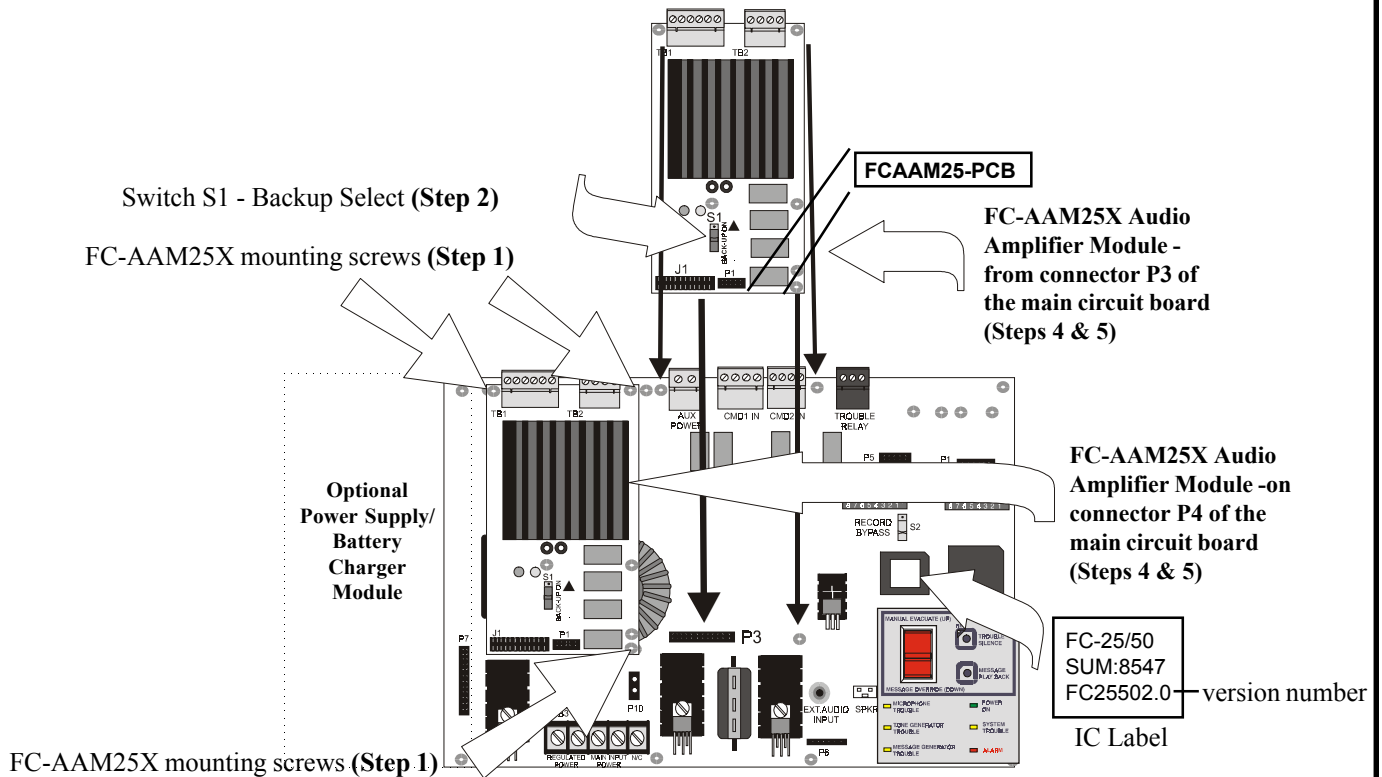

Figure 1: Main Circuit Board
- Main circuit board identified by software version FC25502.0 or higher (refer to Fig. 1)